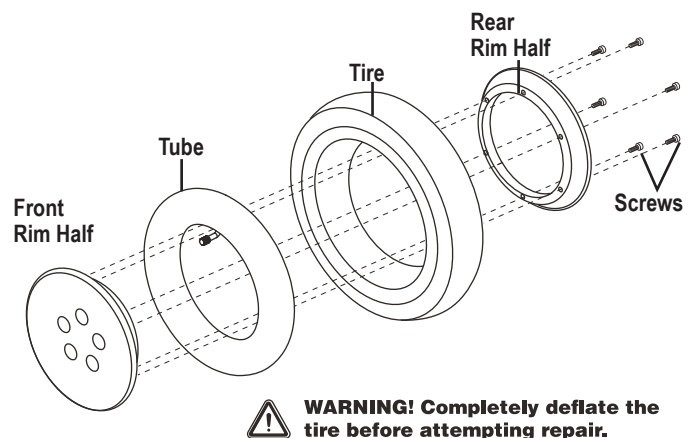

Figure 24. Drive Wheel Disassembled
6. Remove the screws and separate the front and rear rim. **See figure 24.**
10. Reinstall the five (5) lug nuts onto the wheel hub and tighten.